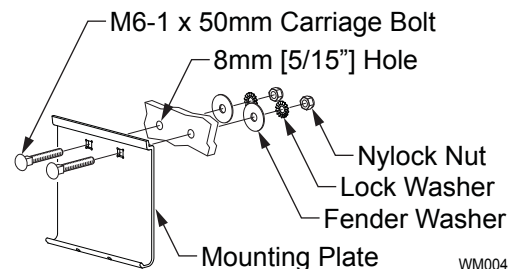

Figure 4. Typical Plate Attach.
- (Refer to Figure 4) Attach the awning case to the mounting plates using two (2) self-tapping #6 x 3/8" screws for each bracket.